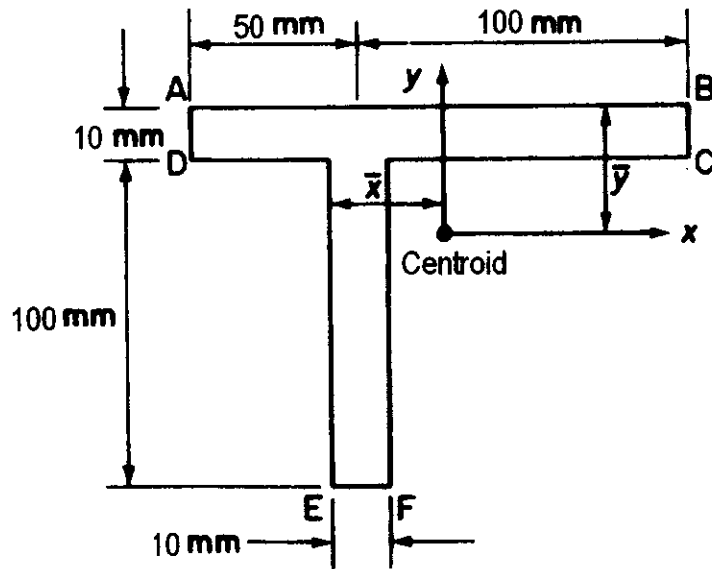

FIGURE Q3
- (b) The cross section of a wing's stringer shown in **FIGURE Q3** is subjected to a bending moment of 2000 Nm, acting in the vertical plane.